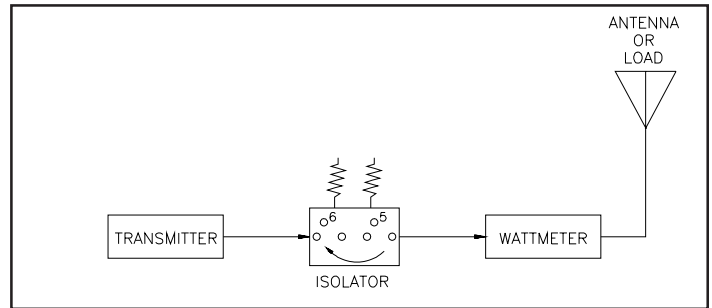

Figure 2
4. Reverse the isolator in the transmission line – with the arrow pointing toward the transmitter – as shown in Figure 2.